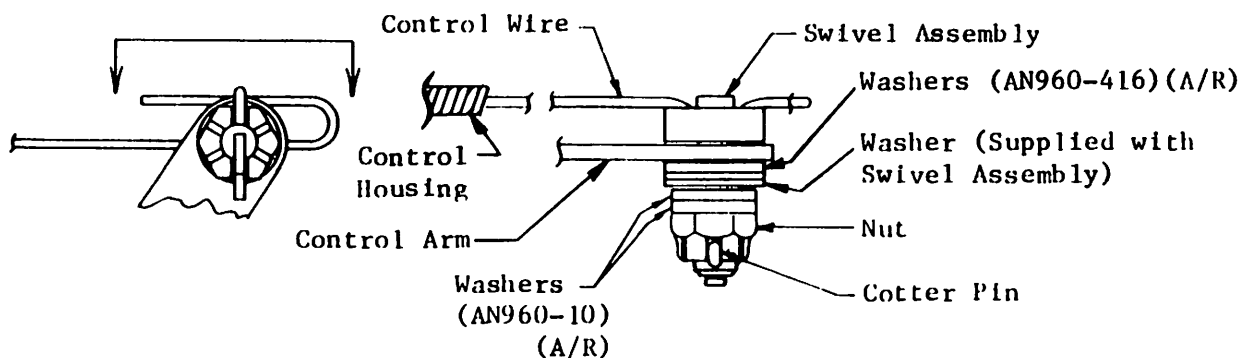

Figure 6-4. Carburetor Heat Control Installation
*See Item 3 on Service Letter No. 74-4 for aircraft not equipped with swivel assembly illustrated in Figure 6-4.*
- g. Bend carburetor heat control wire as shown on Figure 6-4, tighten clamp and install the cotter pin. Check swivel freedom in arm.